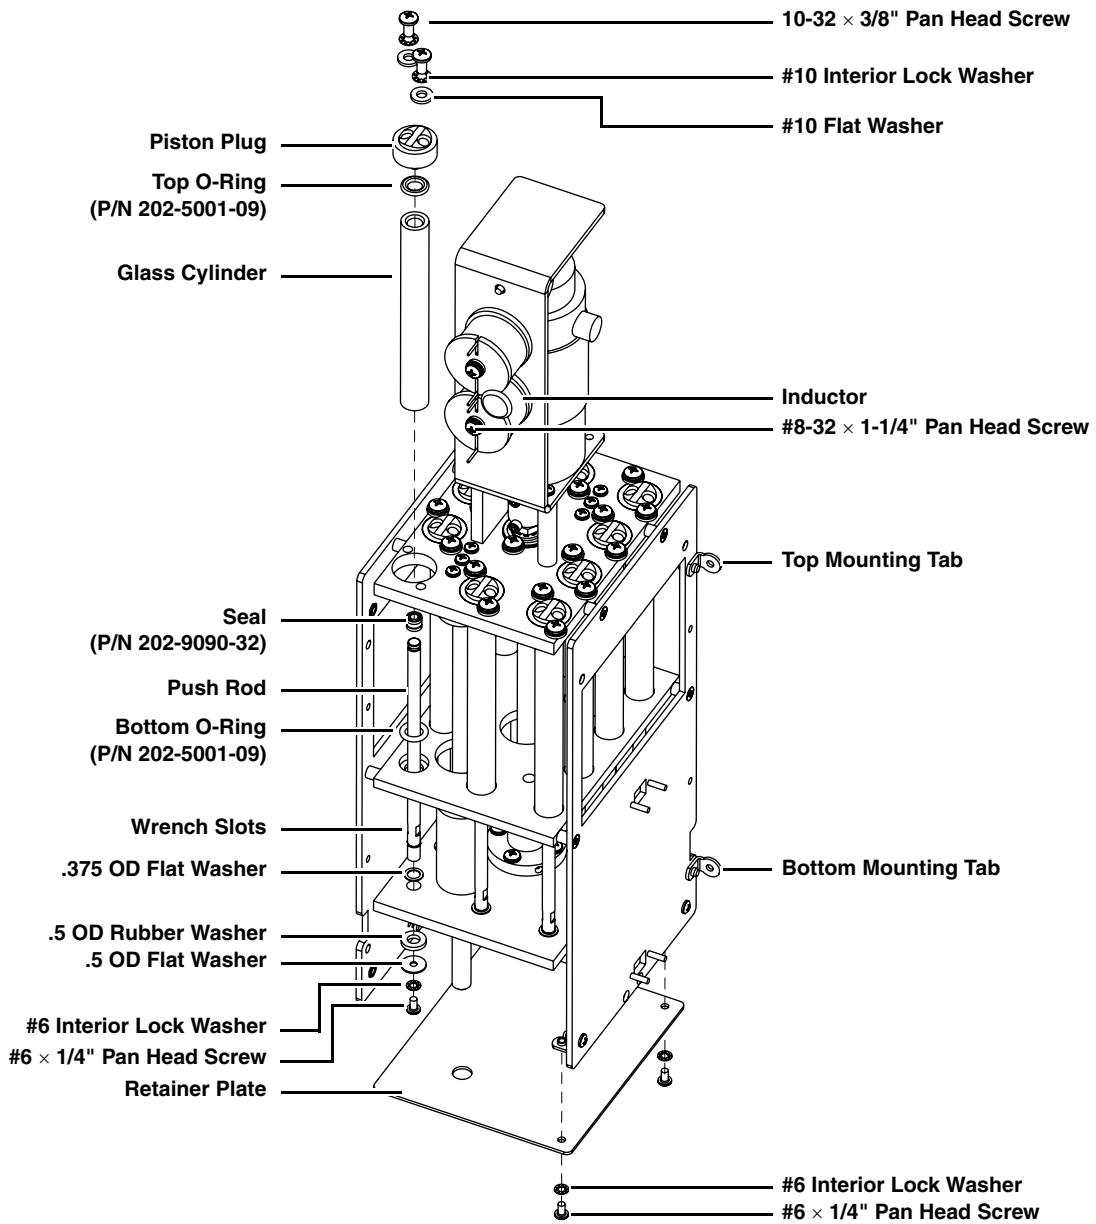

Figure 4-3 Pump assembly components
6. Remove the pan head screw from the top mounting tab (Figure 4-3).
Refer to Figure 4-3 for the following steps.
18. Refer to Figure 4-3 and reassemble the pump channel using new O-rings at the top and bottom of the glass cylinder.
- a. Insert and tighten the pan head screw with lock washer into the top mounting tab (Figure 4-3).